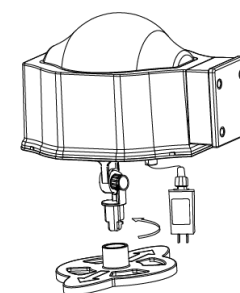

Figure 3
- If using indoors, attach projector to the indoor stand, then spin the stand counterclockwise to secure the projector (Figure 3). Place projector with stand on a stable, smooth surface. During indoor use, the projector may appear less bright if the room is illuminated.